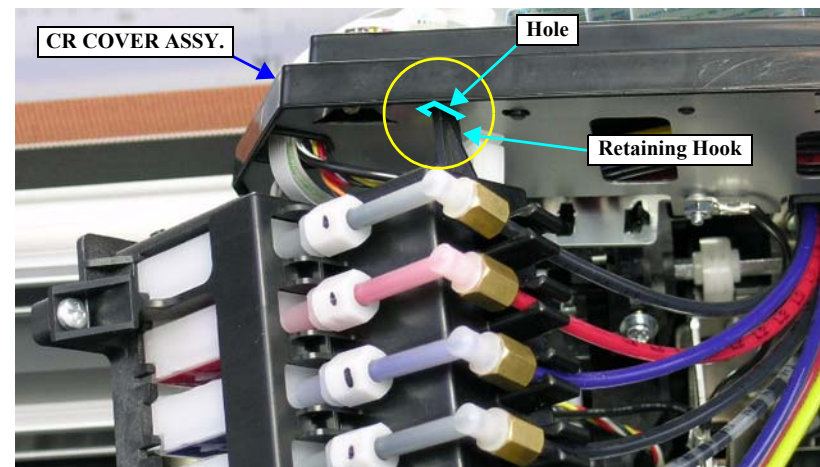

Figure 4-104. Hanging the Damper Unit
6. Put the left retaining hook of the Damper Unit on the hole on the left bottom of the CR COVER ASSY. to hang the Unit on the Assy. *See Figure 4-104.*